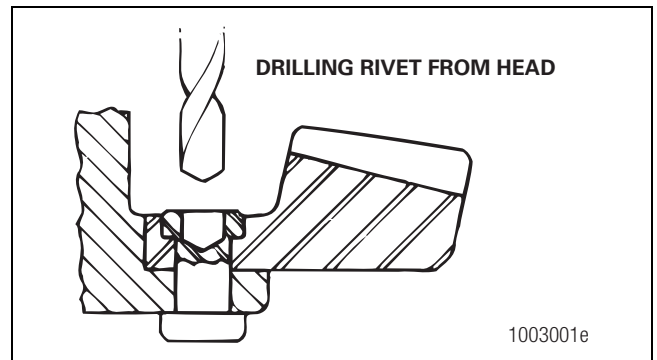

Figure 3.49
- B. Drill each rivet head on the ring gear side of the assembly to a depth equal to the thickness of one rivet head. Use a drill bit that is 0.0312-inch (0.8000 mm) smaller than the body diameter of the rivets. Figure 3.49.